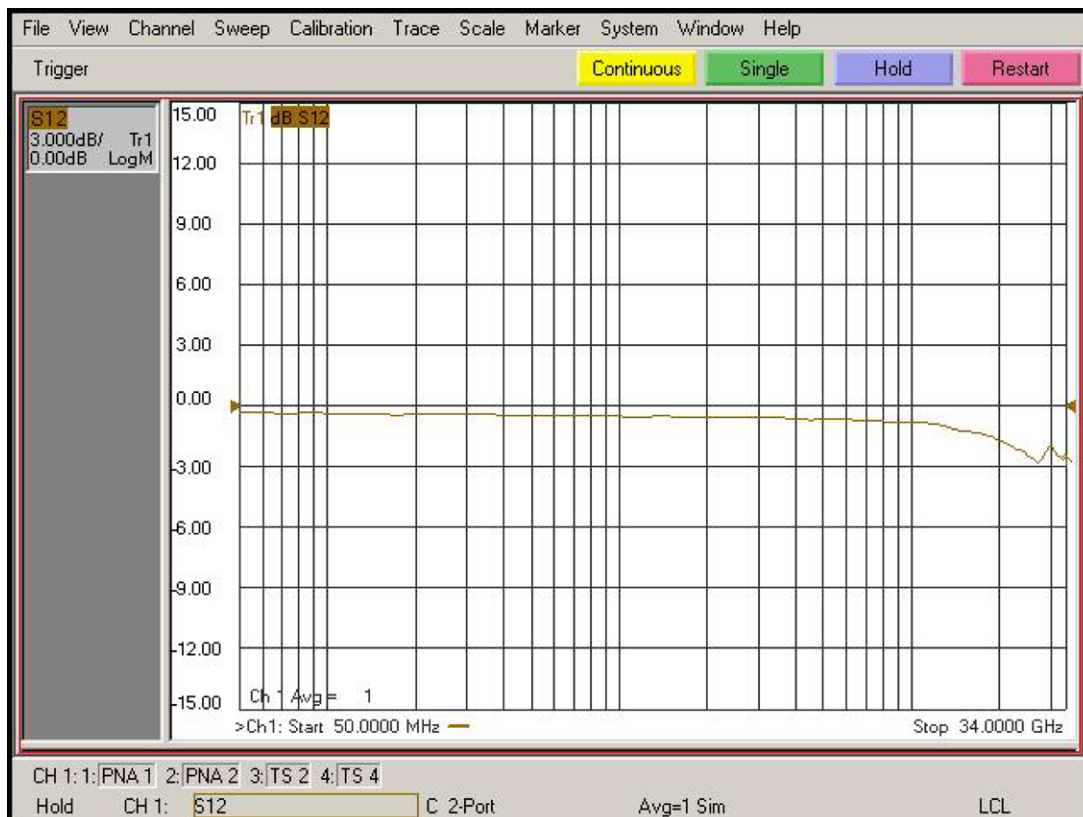

Figure 4 De-embedded “Vin” trace
- 8 Trigger VNA to perform a single sweep. a. Press “Trigger” under Channel Setup, and then the green soft-key for “Single”. Display should look like Figure 4. If it looks noticeably different, the probe tip wires may not be making contact under the pinchers.